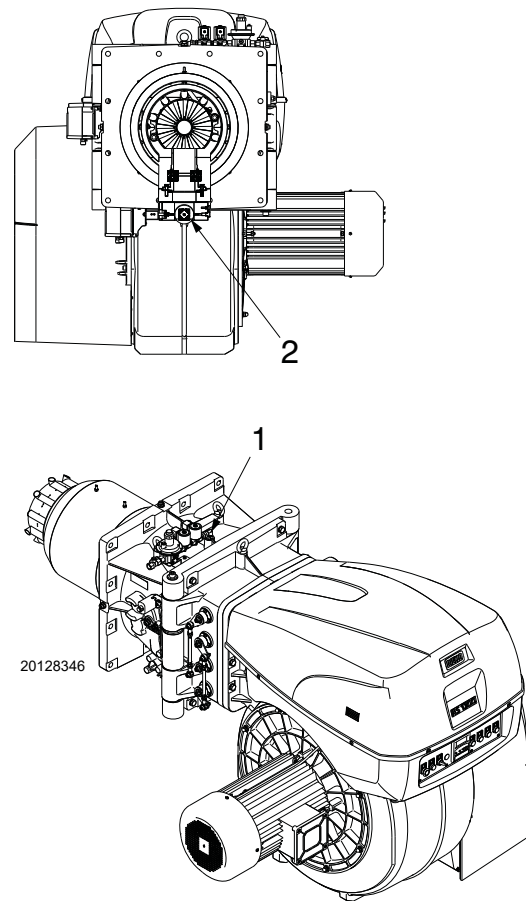

Fig. 23
Gas pressure measured at test point 1)(Fig. 23), with:
Pressure loss at gas butterfly valve 2)(Fig. 23) with maximum opening: 90°.
- subtract the pressure in combustion chamber from the gas pressure measured at test point 1)(Fig. 23).
To calculate the required gas pressure at test point 1)(Fig. 23), set the maximum modulating output required from the burner operation:
- Read, on the right (column 1), the pressure at the test point 1)(Fig. 23).
pressure required at test point 1)(Fig. 23).